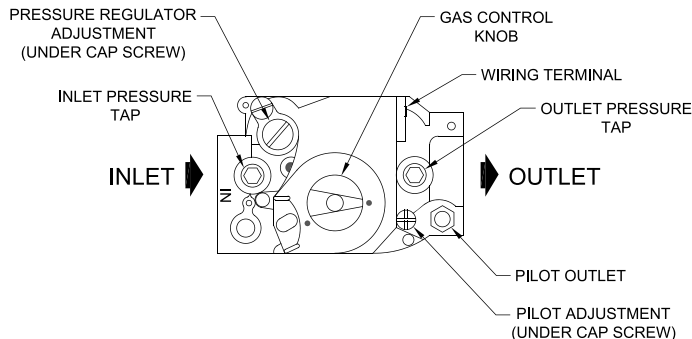

Figure 10-2: Top View of Gas Valve
- B. PURGE AIR FROM GAS PIPING by loosening (or removing) "Inlet Pressure Tap" plug on gas valve (See Figure 10-2). Tighten (or replace) plug when you start to smell gas. Adequate ventilation must be provided and no smoking or open flame permitted.
- A. Install manometer on $\frac{1}{8}$ in. outlet pressure tap on gas valve (see Figure 10-2). Use of shutoff valve between manometer and gas valve can prevent pressure surge that blows out manometer fluid.